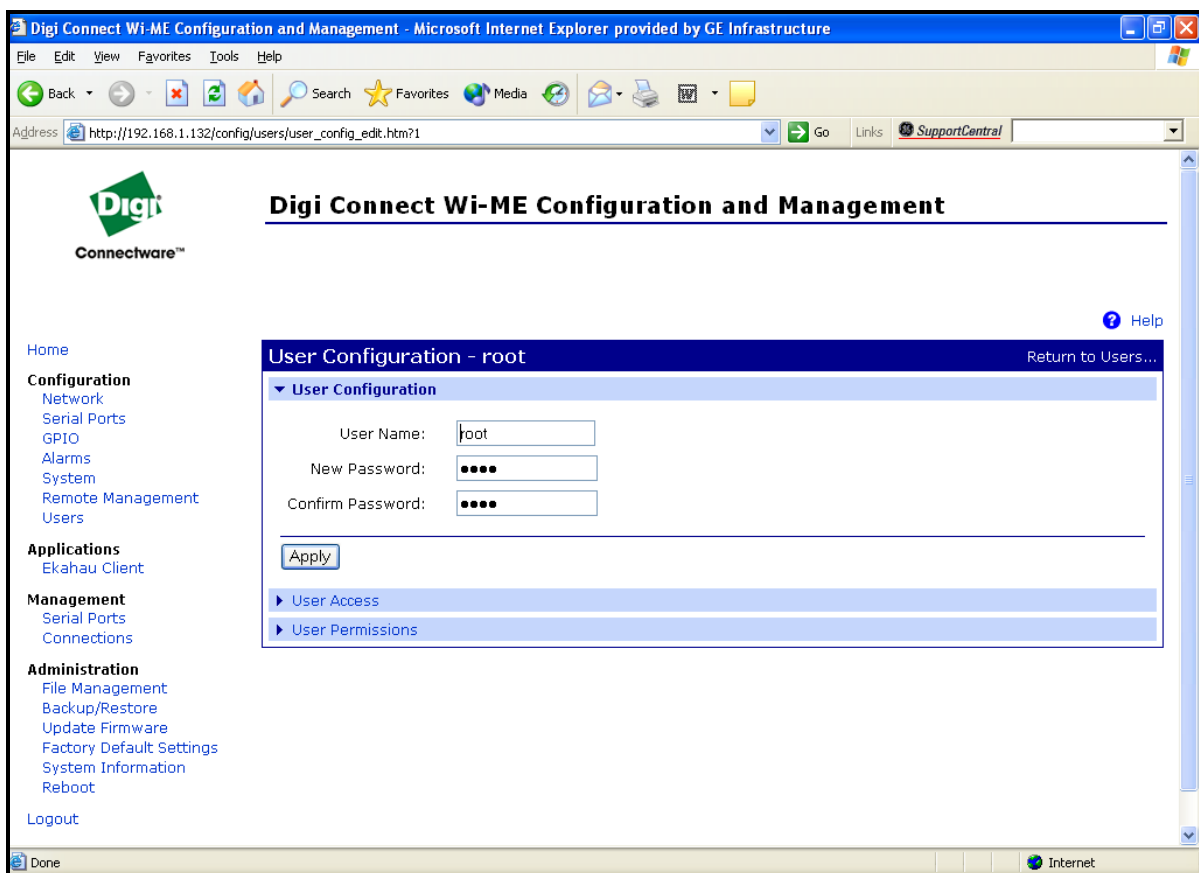

Figure 44: Changing the User Name and/or Password
5. Click on **New....** Figure 44 on page 51 appears.